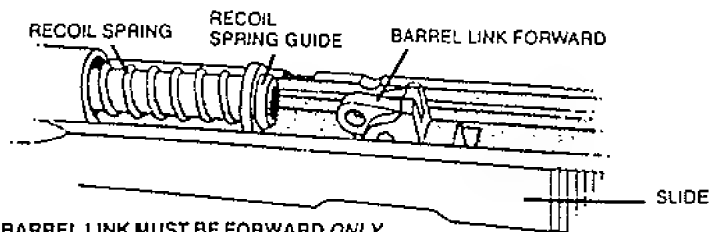

FIGURE 8 - BARREL LINK MUST BE FORWARD ONLY FOR BARREL TO BE REMOVED AND ASSEMBLED THROUGH THE SLIDE.
(See Figure 8).
1. With slide upside down and barrel link forward, assemble barrel into the slide, as in Figure 8.